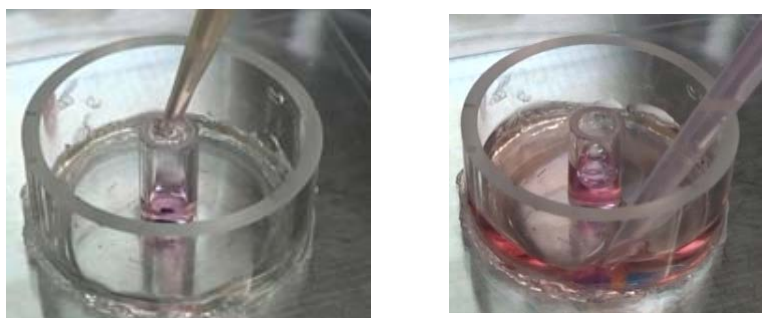

Figure 4. Flood cell suspension into the cloning ring (left) and add Neural Plating-XF medium around the ring.
2. Flood **80 uL** cell suspension (containing around **80,000 cells**) into the cloning ring (Figure 4, left).
3. Add 1 mL of **Neural Plating-XF Medium** around the cloning ring (Figure 4, right).